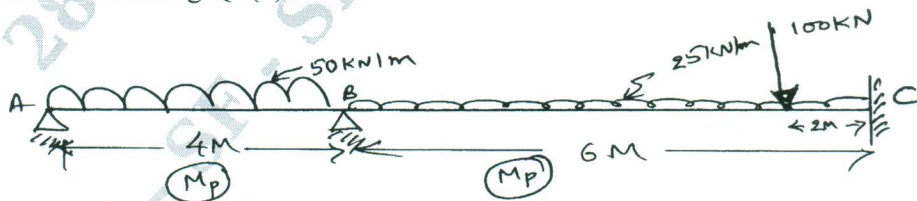

Fig.Q2(b)
- 2 a. Determine the shape factor for the section shown in Fig.Q2(a), if permissible yield stress in compression and tension is 200 MPa. and 240 MPa respectively. (06 Marks)
- b. Determine plastic moment and draw BMD for collapse assuming M_p constant throughout for the beam as shown in Fig.Q2(b). (10 Marks)